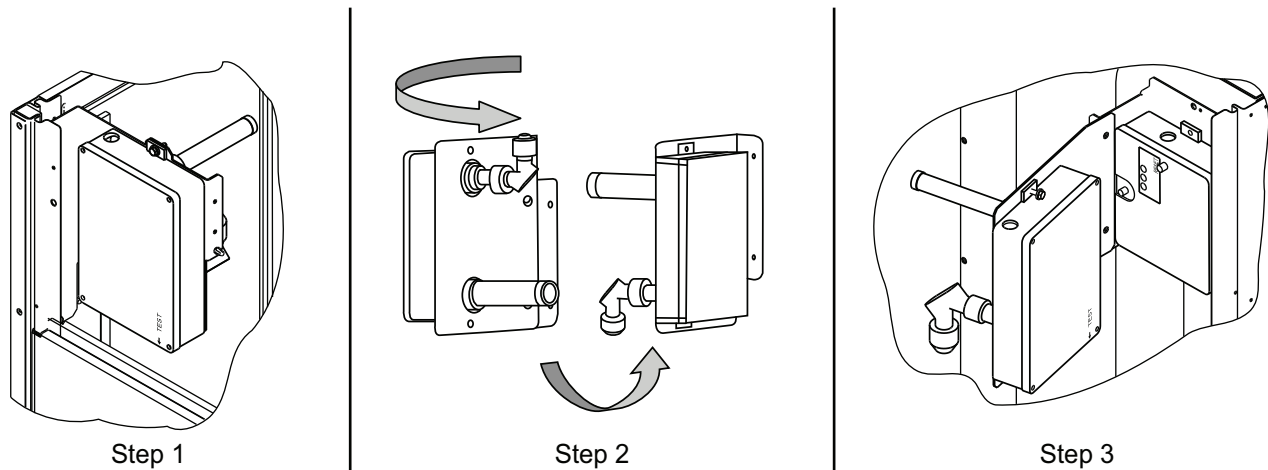

Fig. 53 — Completing Installation of Return Air Smoke Sensor
2. Unscrew the two screws holding the return-air smoke detector assembly. See Fig. 53, Step 1.
4. Turn the assembly 90 degrees and then rotate end to end. Make sure that the elbow fitting is pointing down. See Fig. 53, Step 2.
5. Screw the sensor and detector plate into its operating position using screws from Step 2. See Fig. 53, Step 3.